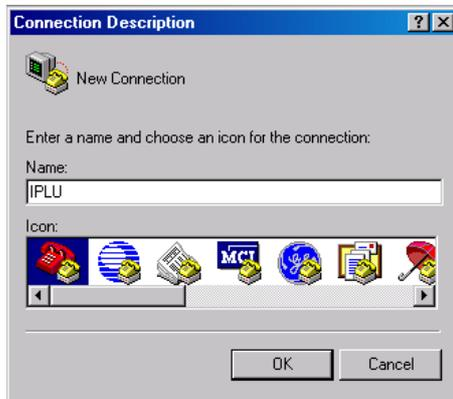

Figure 6-5 Typing the name
1. Click Start-> Programs -> Accessories -> Communications -> HyperTerminal, the HyperTerminal interface will pop up, as shown in Figure 6-5. Type the name 'tt' in the Name field, and then click the OK button.